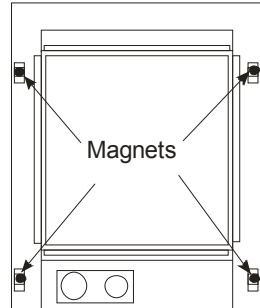

Figure 14
3. The trim is held on by four magnets. These will either be attached to the trim or supplied loose in a separate envelope. Attach them to the four brackets on the side flanges of the fire as in **Figure 14**.